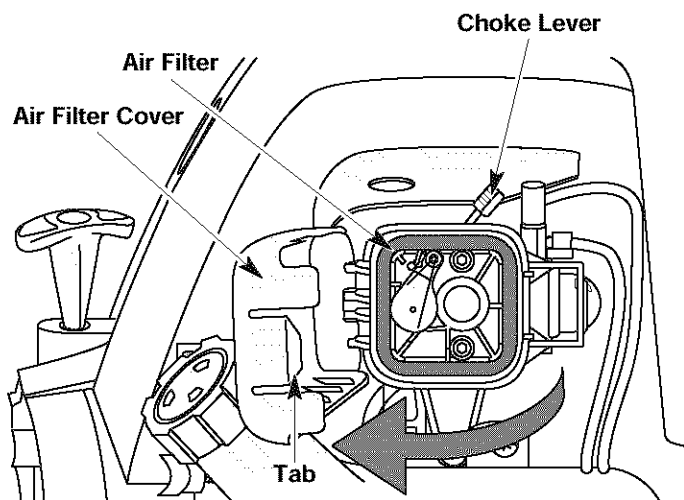

Fig. 30
1. Open the air filter cover. Push the tab on the right side of the cover in, pull the air filter cover out and to the left (Fig. 30).
2. Remove the air filter (Fig. 30).